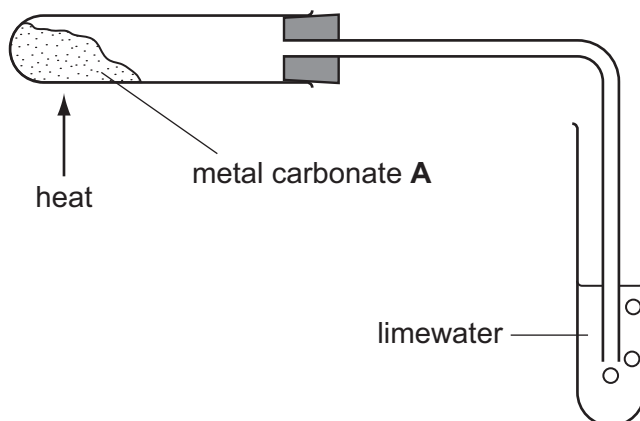

Fig. 2.1
- (a) (i) Place compound **A**, which is a metal carbonate, in a clean hard glass test-tube. Place about 3 cm³ of limewater in a second test-tube. Connect the bung of the delivery tube to the test-tube containing **A** and place the delivery tube into the limewater as shown in Fig. 2.1.